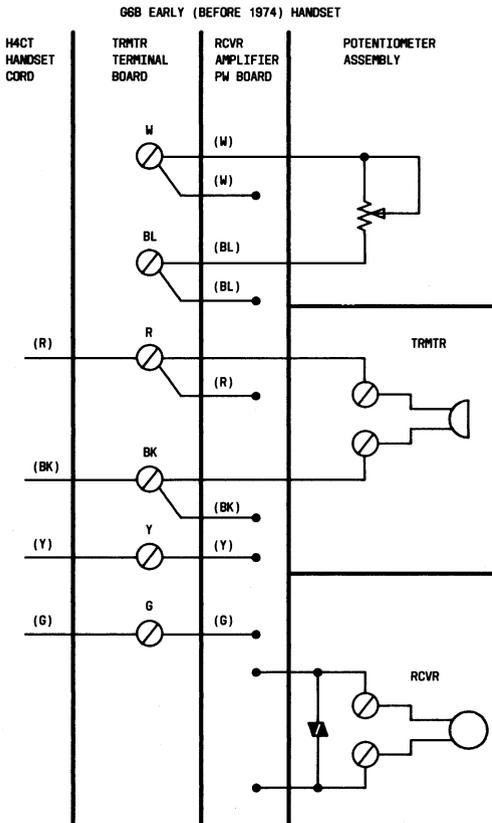

Fig. 1—G6B (MD) Early (Before 1974) Handset, Connections
**3.04 Schematics:** Internal connections of the amplifier type handsets are shown in Fig. 1 through 10.
- (1) Tone-out and identify one white conductor. For identifying purposes, loose knots may be tied in each end of this conductor, designating it green. The other white conductor is designated as yellow.
- (2) Loop and tie or tape the excess length of white conductors to approximate length of red and black conductors.
- (3) Insert conductors in transmitter bowl carefully so as not to disrupt the printed circuit board.
- (4) Connect to transmitter terminal board as shown in Fig. 1, 2, 3, 4, 5, or 6.